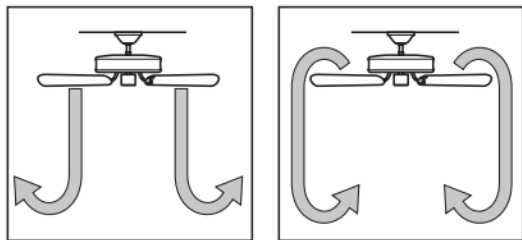

Figure 27 - Air flow patterns
4. Ceiling fans work best by blowing air downward (counterclockwise blade rotation) in warm weather to cool the room with a direct breeze. In winter, having the fan draw air upward (clockwise blade rotation) will distribute the warmer air trapped at the ceiling around the room without causing a draft. Refer to Figure 27.